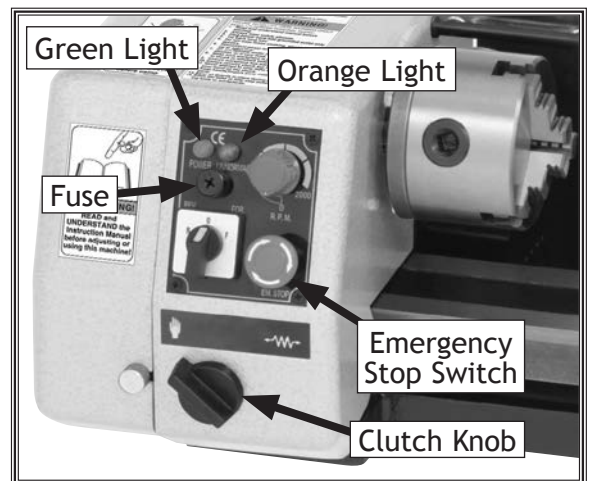

Figure 16. Lathe control panel.
6. Plug the lathe in, and the green light should be lit (see Figure 16).
- If the orange light (Figure 16) illuminates or the spindle fails to turn, the fuse could be missing, so install the spare fuse.